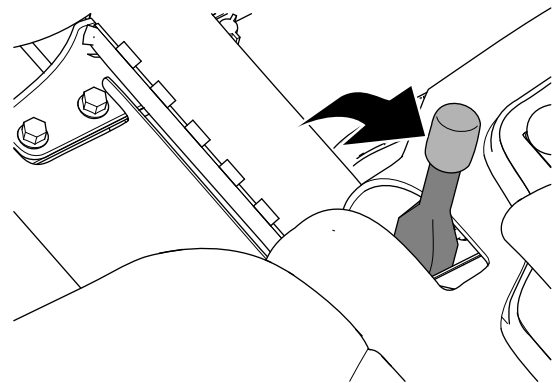

Figure 28
2. Engage the parking brake (Figure 28).